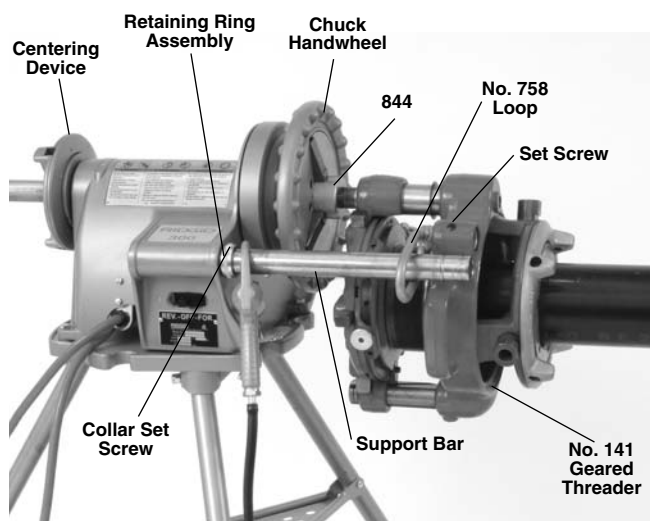

Figure 13 – Model 141 Geared Threader Close-Coupled to Power Drive
3. **Model 141** – Loosen set screw in geared threader attachment boss. Install the 758 loop into boss and tighten setscrew to retain loop. Pull switch side support bar forward and through the 758 loop and secure in place with the retaining ring assembly (Figure 13).